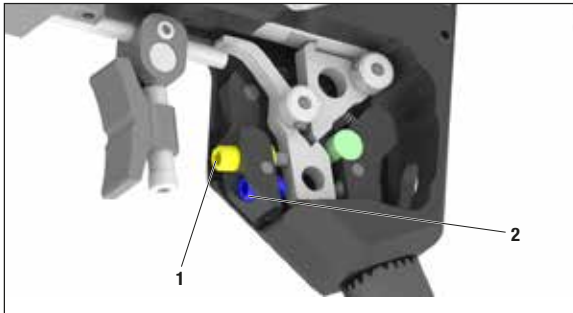

Figure 16
- Turn the setscrew (2, Fig. 16) clockwise with a 2 mm Allen key. The trigger creep will decrease.